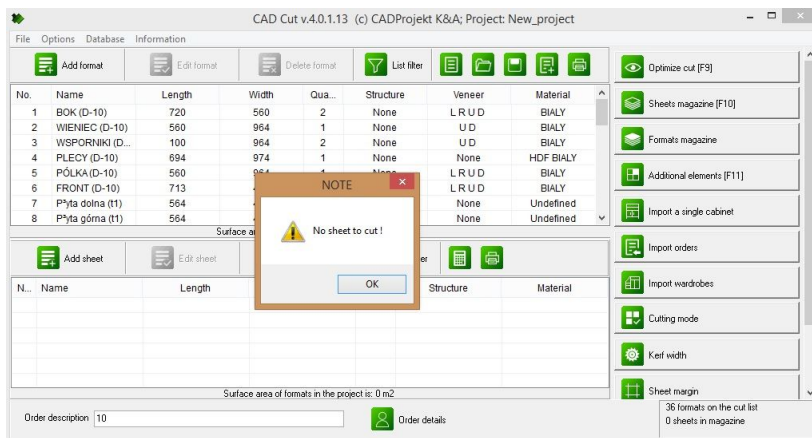

Fig. 115 – formats of cabinets from CAD Kitchens order and a message about missing sheets
- in the main program window you will see a list of formats - the components of the cabinet to be cut (Fig. 115);
- to conduct the optimization of the cut, you must add relevant sheets to the sheet list - otherwise when you click the **'Optimize cut'** button, you will see the message: **"No sheets to cut!"** (Fig. 115). After closing it, a window in which you can add a sheet will automatically open. When you add a sheet, the optimization will automatically follow.